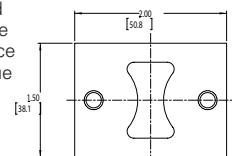

Figure 4
- After circuit breaker/HMCP is installed, assemble the appropriate fork plate to the fork with supplied two (2) 1/4-20 x 3/4" screws and two (2) 1/4 split lock washers as shown, and torque screws to 30 in.-lb (3.4 N-m). See Figure 4 and Table A4 for selecting the correct fork plate for the assembly.
*See Figure 4 on page 2 for further fork plate information.